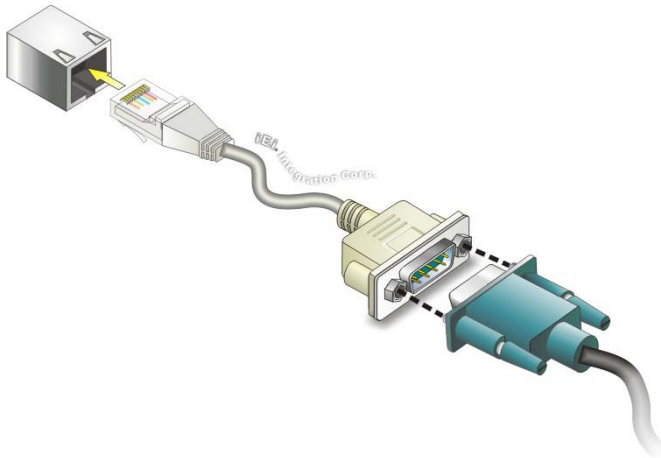

Figure 3-20: RJ-45 RS-422/485 Serial Device Connection
Step 2: Insert the RJ-45 connector. Insert the RJ-45 connector on the RJ-45 to DB-9 COM port cable to one of the RJ-45 RS-422/485 connectors on the TANK-820-H61. See **Figure 3-20**.